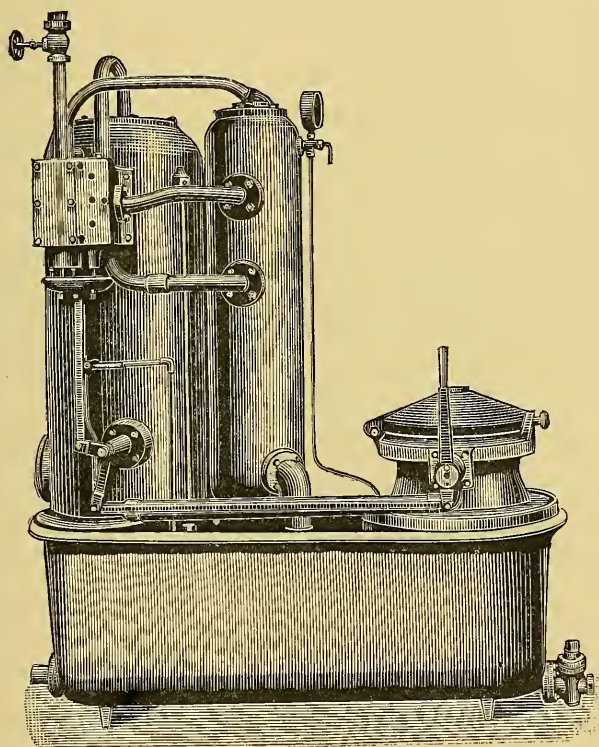

Fig. 51.—Cop Dyeing Machine.
**Cop Dyeing.**—It will be interesting to refer here to a machine which has met with a considerable amount of success—viz., the Cop Dyeing Machine, introduced by a well-known Lancashire manufacturer. The illustration here given (Fig. 51) furnishes a general view of the machine, which consists of a dye-vat, a large and small receiving chamber, shown to the left, and a treating chamber, to the right of the view. The vat is supplied with a coil of steam pipes arranged on the inner side, so as to be out of the way. There is an annular cavity round the exterior of the treating chamber, which is provided with a number of small holes, so that air or steam may be supplied thereto through a valve on the outside of the chamber. The large and small receiving chambers are suitably connected with the cop-treating chamber, and, in the former, a most efficient valve mechanism is provided. On the outside of the large receiving chamber there is also a double valve chest, one for steam and the other for air.